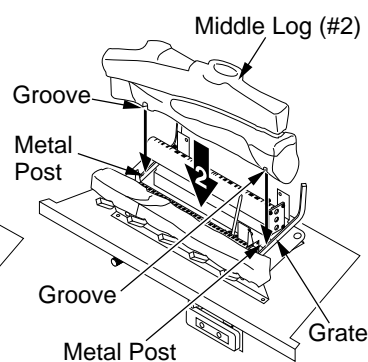

Figure 42 - Installing Middle Log (#2)
2. Rest middle log (#2) behind metal posts on front burner. Make sure the grooves in the bottom of the log fit over the grate. Bring the log forward next to the metal posts (see Figure 42).